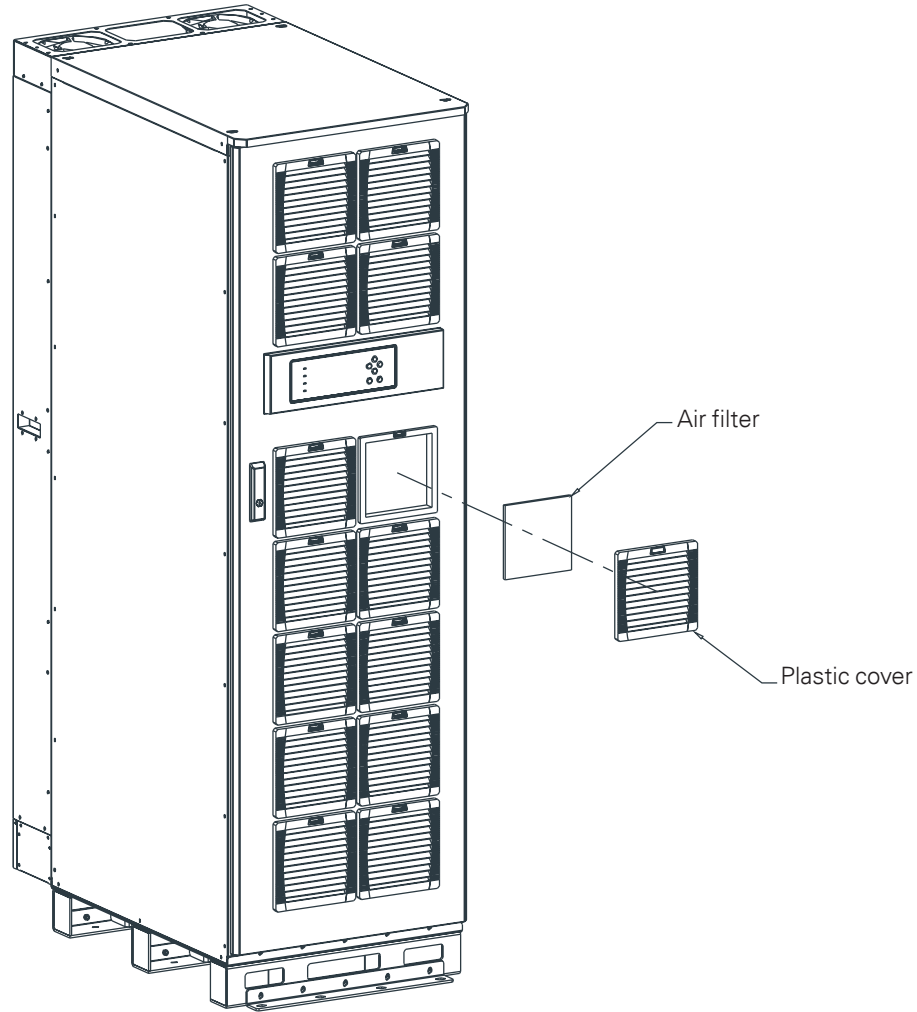

Figure 8-1. Air Filter Location
2. Check the UPS air filters (located behind the front door) and wash or replace as necessary. See Figure 8-1 for filter location. Contact an Eaton service representative for replacement filters. To remove the filters: